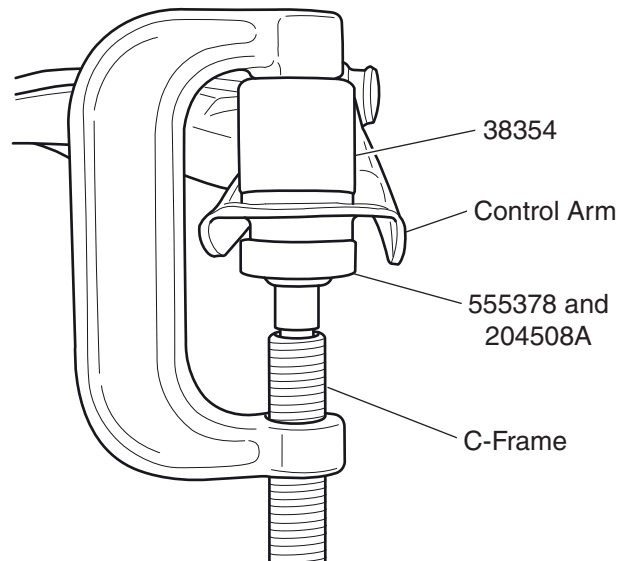

Figure 2. Ball Joint Installation
4. Position 204508A and 555378 on the ball joint as shown in Figure 2.